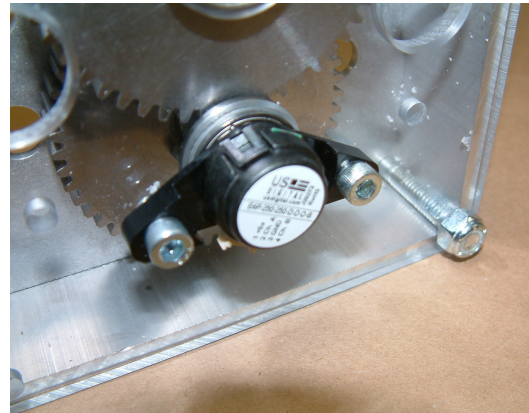

Fig. 16
Step 5: Press the Encoder Cap on to the encoder plastic base so that the cutout on the Cap is aligned with the connector (fig. 16), and snap the Encoder Cap on to the clips.